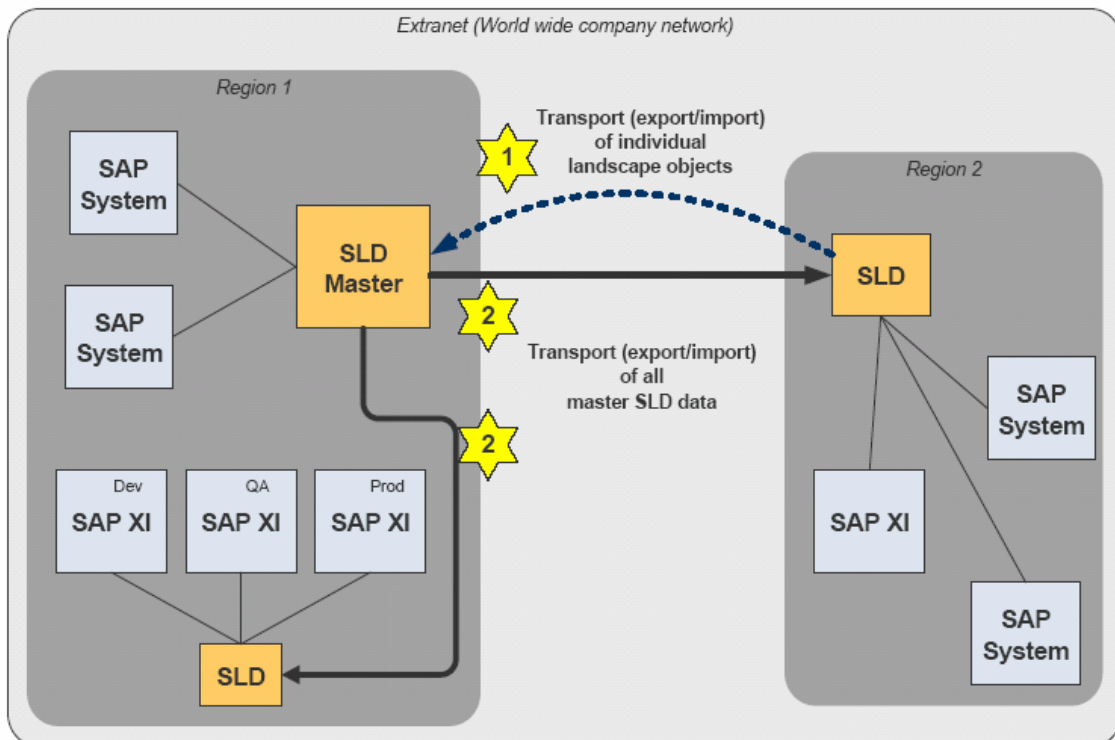

Figure 1: Synchronization of Multiple SLDs in Regionally Distributed Environments
- How to transport (export and import) technical systems and business systems individually (see Figure 1: Yellow star number 1)
- How to transport (export and import) all master SLD data (see Figure 1: Yellow star number 2)
In **development or productive** environments (see Figure 1: "Region 1"):
In **regionally-separated** domains (see Figure 1: "Region 2"):
Section 3.2 describes how to transfer the data from the master SLD from Region 1 to Region 2 (see Figure 1).